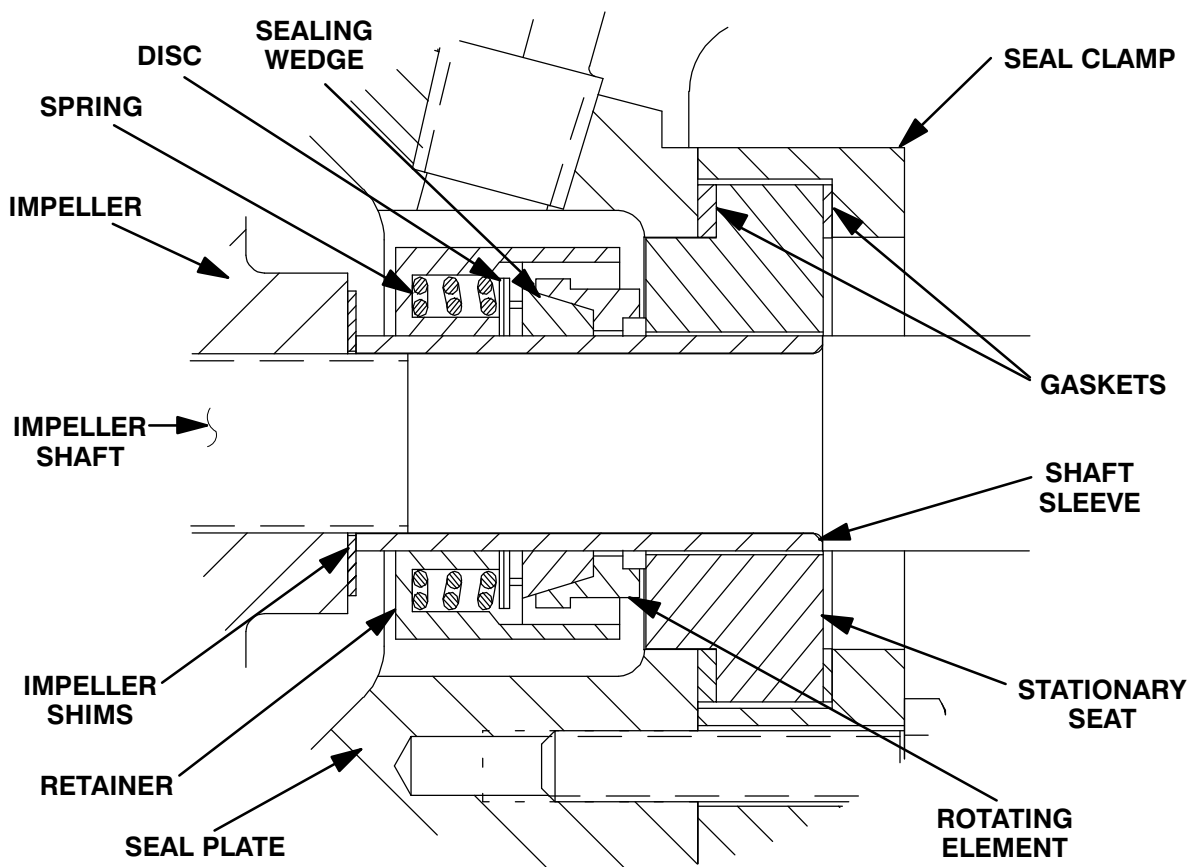

Figure 3. Seal Assembly
To ease installation of the seal, lubricate the shaft sleeve (11) with water or a very **small** amount of oil, and apply a drop of light lubricating oil on the finished faces. Assemble the seal as follows, (see Figure 3).